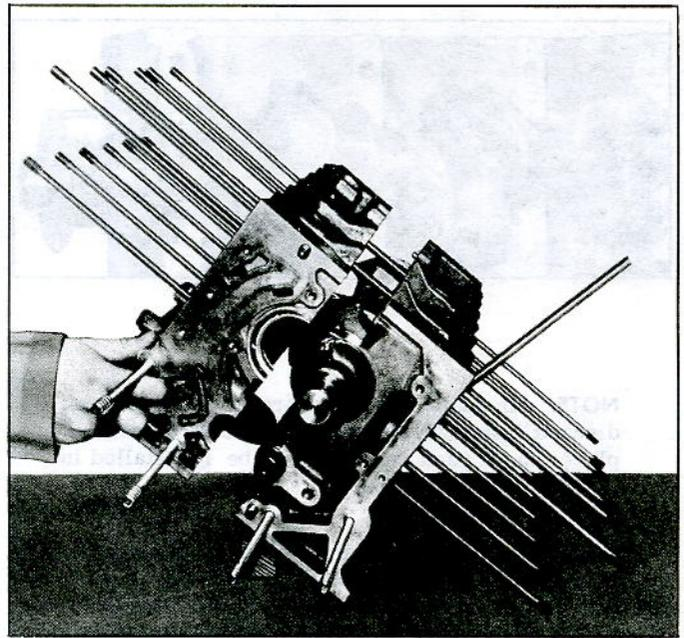

Fig. 54—Removing Left Crankcase Valve
- 15° (left half up) to prevent crankshaft from falling out when left crankcase half is removed (fig. 54).